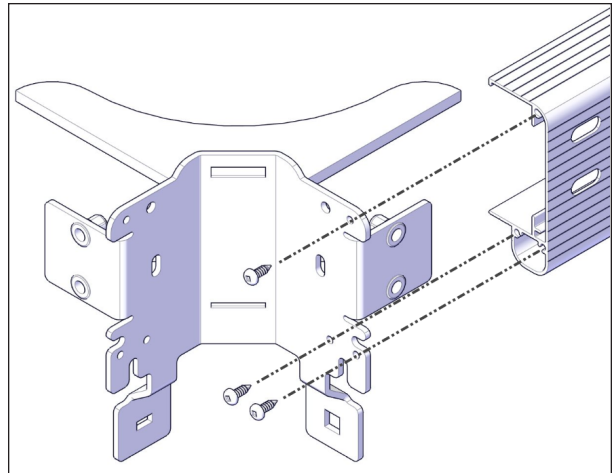

FIGURE 28: CORNER BRACKET INSTALLATION
- Insert the inner corner brackets in both ends of the remaining C-channels. Use the provided Robertson sheet metal #8 x 3/4 in. screws on the inside holes, see Figure 28.